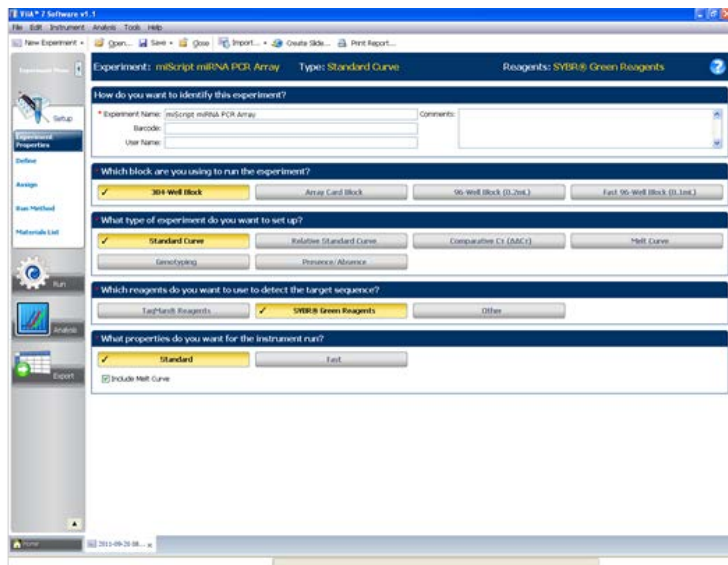

Figure 1. Experimental properties.
3. Under “Setup” > “Experimental Properties” menu (see Figure 1):